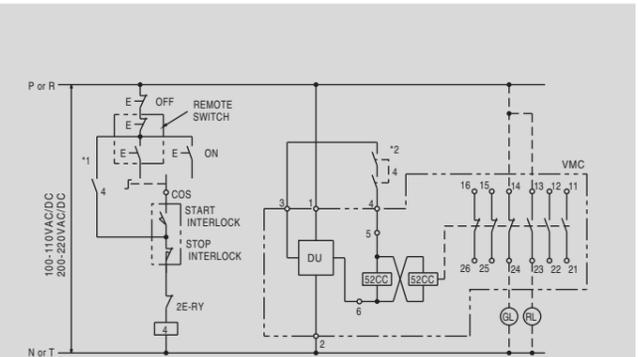

Fig. 4 Non-latched type operating circuit
The typical operating circuit is shown in Fig. 4 indicating type CV-6GA/6HA contactor. Make sure to use the "NO" contacts of quick operating relay (4) self-holding circuit. Do not use the "NO" auxiliary contacts of vacuum contactor, this may cause the welding of main contacts when the start (ON) button is pushed incompletely. (refer to the marked 1 in figure) Make sure to switch the closing coil on DC side. Should the coil be switched on AC side, a discharging circuit will be formed by rectifiers against coil, resulting in prolonged opening time and lowered breaking performance. (refer to the marked 2 in figure)